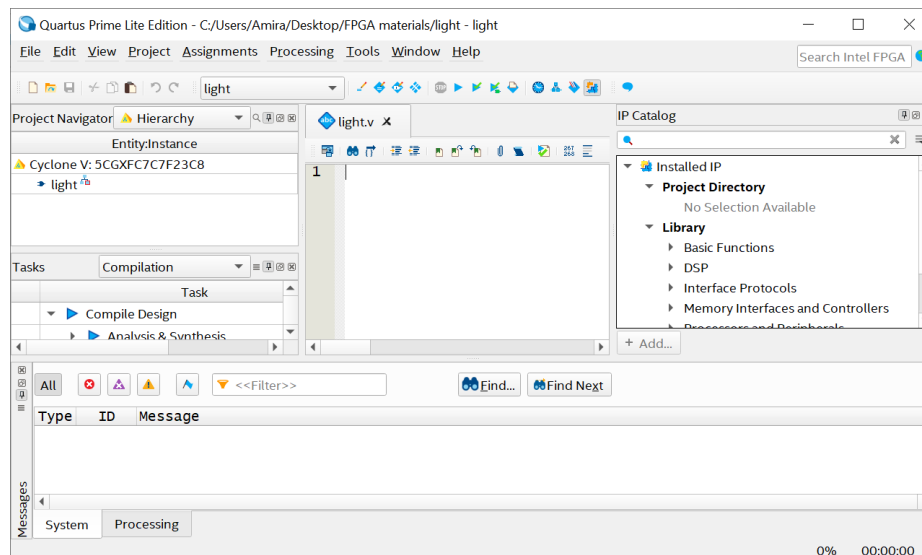

Figure 13. Text Editor window.
- Maximize the Text Editor window and enter the Verilog code in Figure 13 into it.